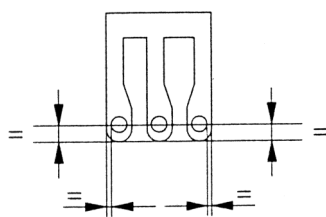

Fig. 3
- The sides of the needles "L0", "L1" and "L2" must not touch the sides of the needle plate (fig. 3).